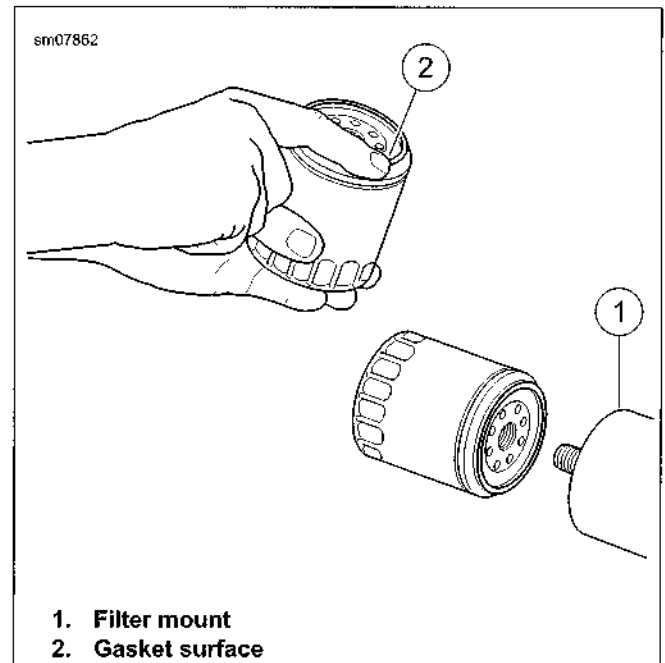

Figure 1-7. Applying Thin Oil Film
3. See Figure 1-7. Wipe filter gasket contact surface of oil filter mount (1) with a clean cloth. Surface must be smooth and free of debris or old gasket material.
4. Apply a thin film of oil to gasket contact surface on crankcase and gasket surface (2) of **new** oil filter.